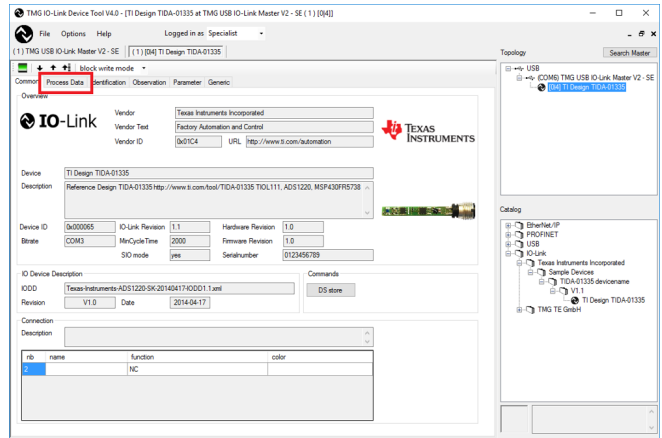

图 17. IO-Link Master GUI 6
6. The green button in the upper left corner indicates a proper connection between the IO-Link master and IO-Link device (see 图 17).